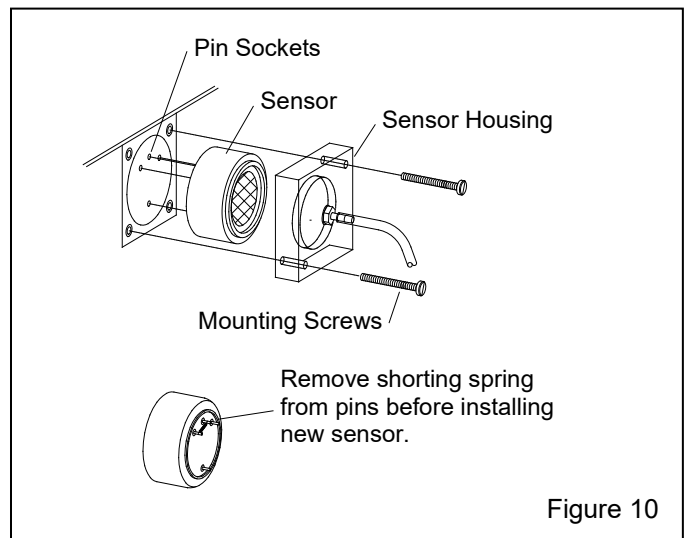

Figure 10
**7.1.5** Locate the clear-plastic sensor housing, shown in Figure 10, and remove the mounting screws. The screws are easily removed Do not press hard against the screw heads; **excessive pressure could damage the circuit board.**
**7.1.9** Handle the new sensor with care. Remove the shorting spring from the pins, as shown in Figure 10, and then plug the sensor into the sockets.